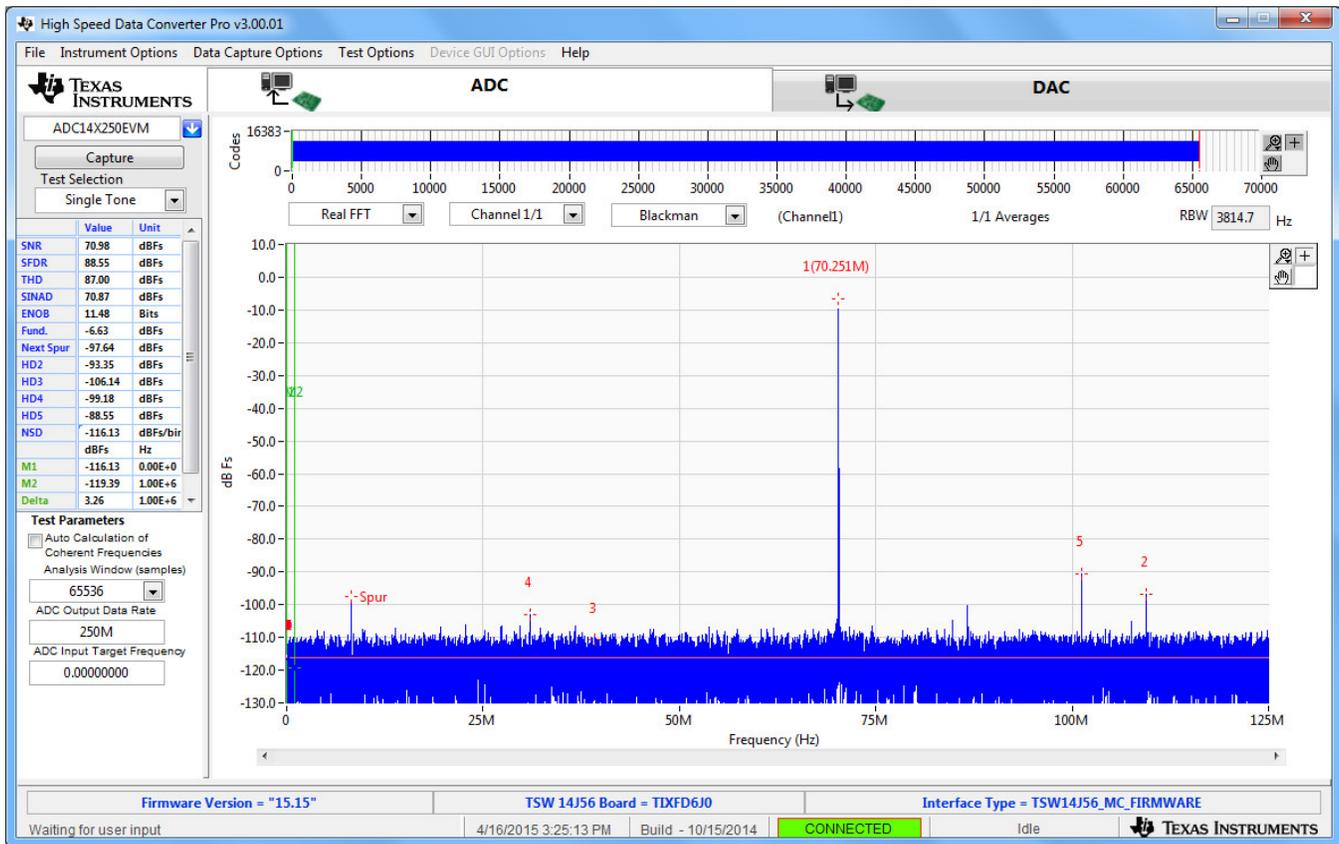

Figure 4. Data Capture Results from Quick Start Procedure
- The results from the captured data of Channel 1 should resemble Figure 4 and the performance should be similar to Table 1. If this result is not achieved, then see the Quick Start Troubleshooting section of this document.